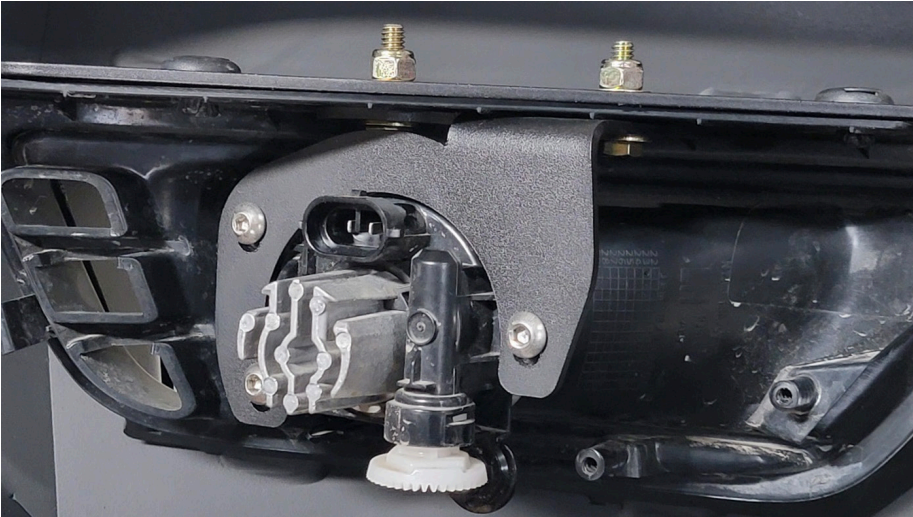

Figure 31
29. Install the fog light brackets from Step 27 to the housings using the provided 2x stainless steel 1/4" hex head cap screws, flat washers, and nylock lock nuts. Once installed, plug the fog lights into the wire harness. Figure 31.